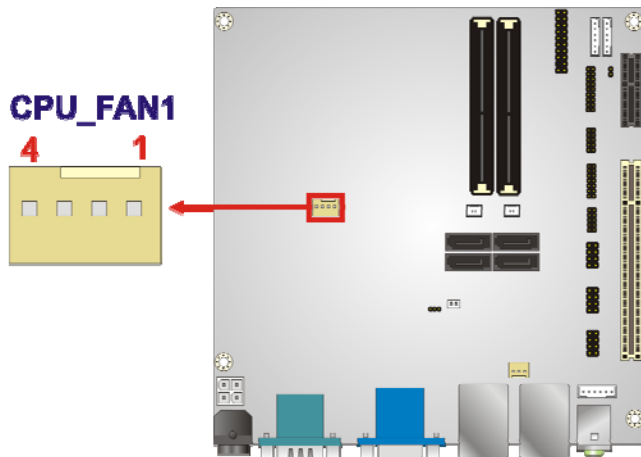

Figure 3-8: CPU Fan Connector Locations
- CN Location:** See **Figure 3-8**